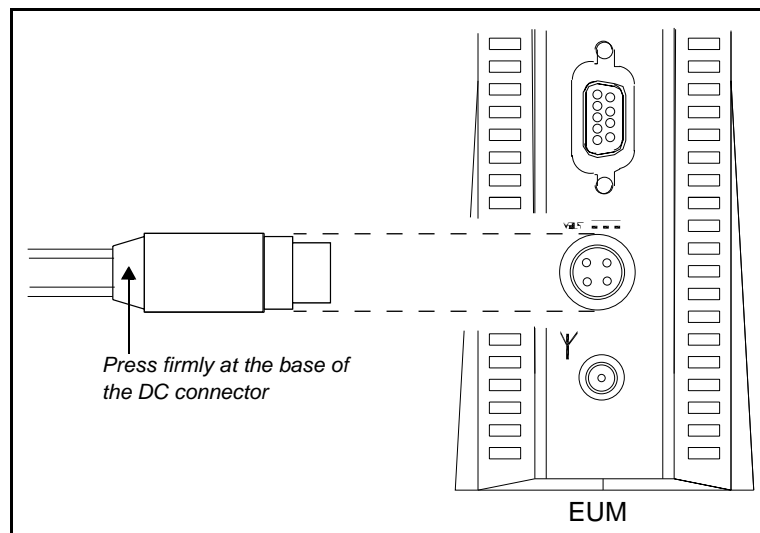

Figure 3 Connect the DC Power Cord to the EUM3000
3. Connect the DC converter to the EUM3000. To do this, press firmly at the base of the DC connector on the power cord, and attach to the corresponding DC connector on the EUM3000 (Figure 3).